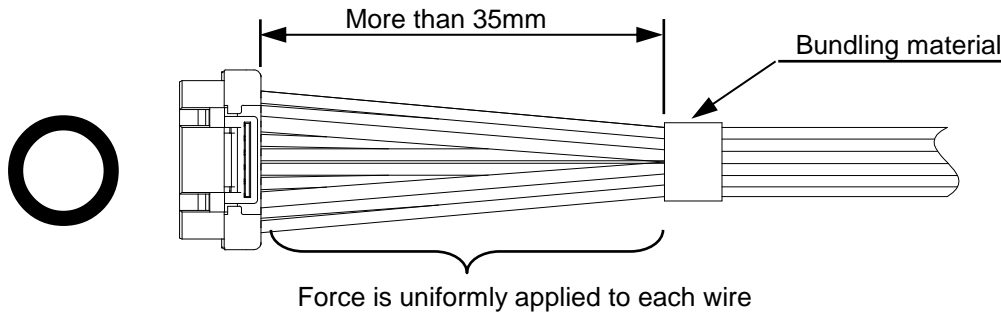

Fig.7-1 Properly harnessed state
- ① Please bundle the wires at more than 35mm length from connector and uniformize the force to each wires (**Fig.7-1**)